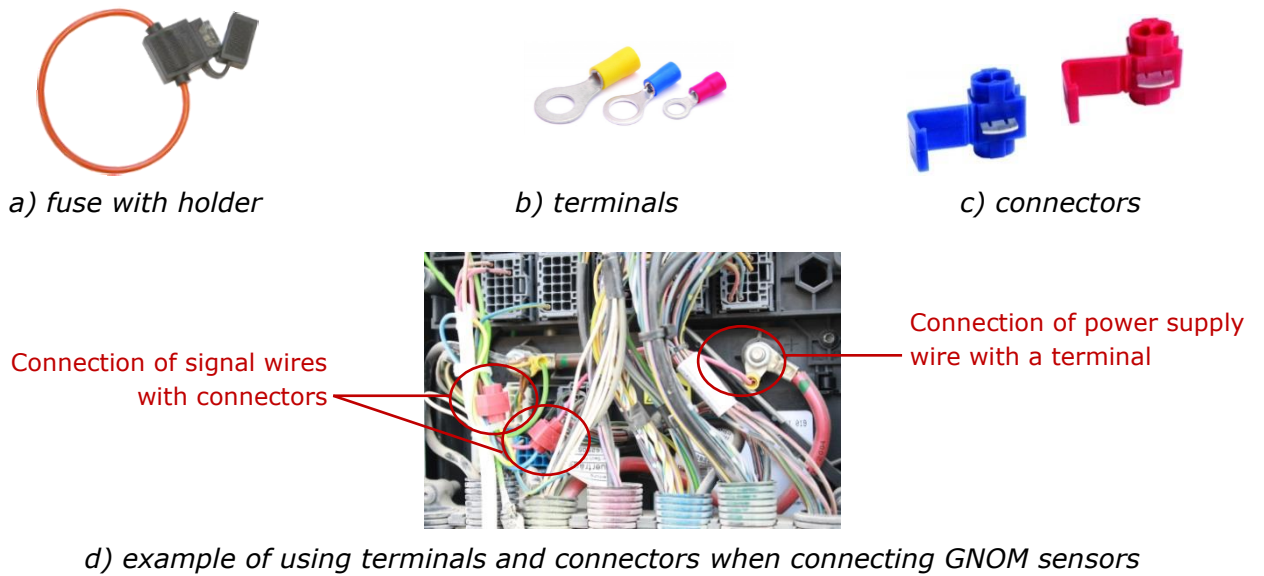

Figure 32 — GNOM electrical connection
- 2)** It is recommended to use **fuses** (to be purchased separately) when connecting GNOM power supply (see figure 32). Nominal fuse current is not more than 2 A).
**Terminals** are recommended for electrical connection of power supply wires and quick splice **connectors** for output signal wire connection (see figure 32).